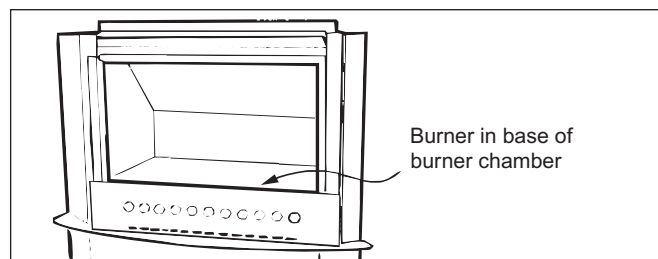

FIG 21
1. The burner is contained within the burner chamber. Refer **FIG 21**.